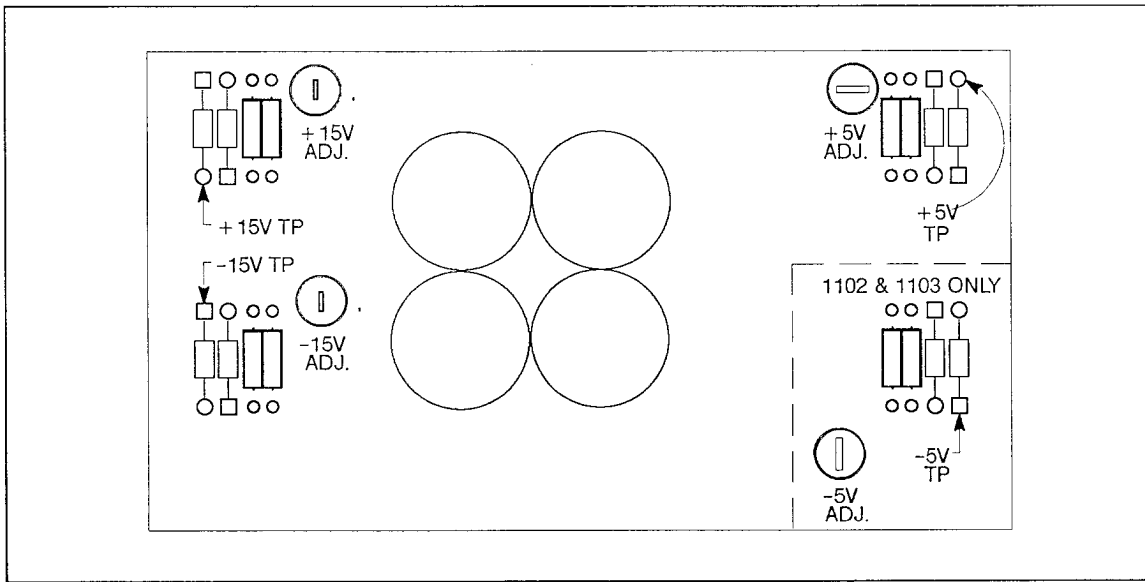

Figure 3-2. Test Point and Adjustment Locations
3. Install the power cord and press the power switch to the ON position. Refer to Figure 3-2 for test point and adjustment locations.